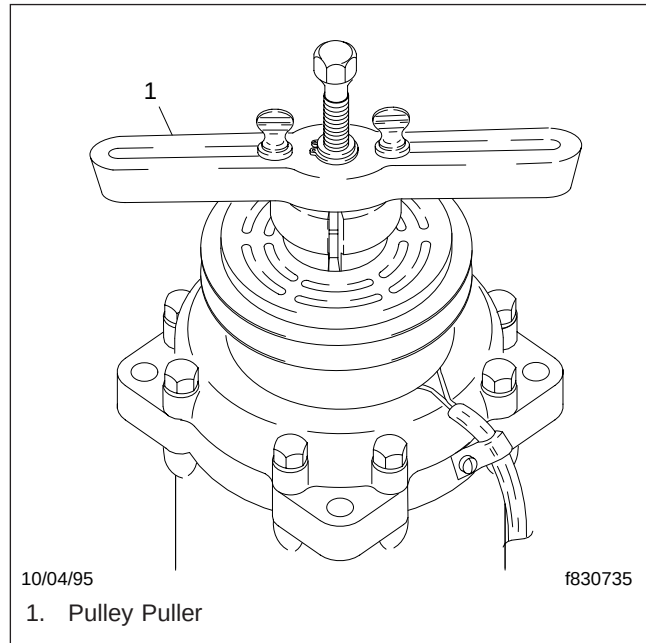

Fig. 6, Positioning the Pulley Puller Jaws
- 7.1 Insert the lip of the pulley puller jaws into the snap ring groove. See Fig. 6.